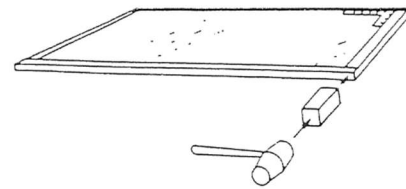
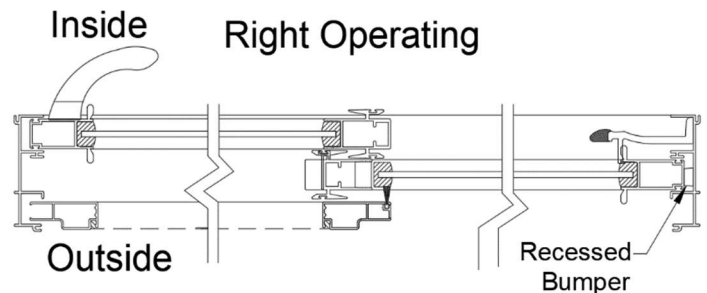

Figure 5
Figure 6
5.1 First check all panels for squareness. Panels can become out of square while being transported. You can adjust using a mallet and a wooden block. See figure 5.
5.2 Panel operation shown is as viewed from the outside. Install the first panel as shown in figures 5 or 6 by lifting the top up into the header section and then resting the bottom on the corresponding track on the sill. Adjust the panel wheels (figure 6) so that the panel is square to the jambs (side) and operates smoothly. Move this panel to the middle.